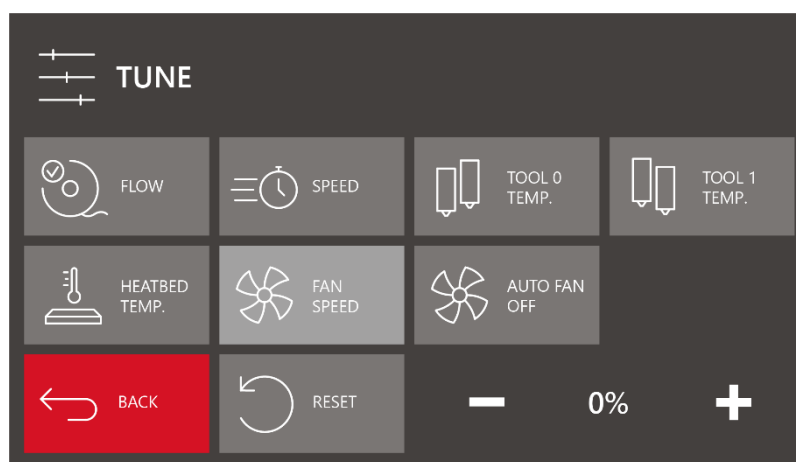

Fig. 22 TUNE menu screen
**TUNE** - enables precise modifications of basic printing parameters (fig. 22).